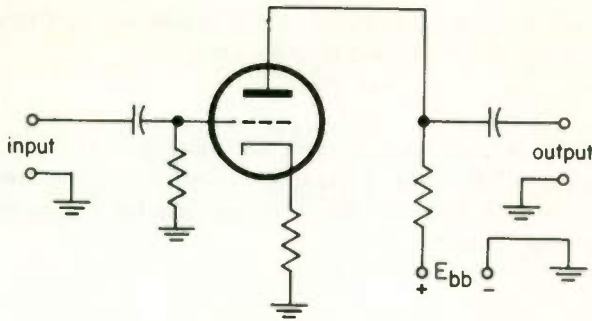

Fig. E.2
- (1) the input impedance of such an amplifier is considerably higher than that of the class A amplifier.
- (2) the stage providing the input signal must be capable of supplying power to the driven stage.
- (3) no appreciable difference exists in the requirements of the stage providing input power.
- (4) since a portion of the positive half of the input signal is called upon to deliver power, the center tap of the primary of the inter-stage transformer should be off center (toward the ground) to provide additional needed power.
17. The minimum change(s) in Fig. E.2 to make the circuit operate satisfactorily as an a-f amplifier with good voltage gain